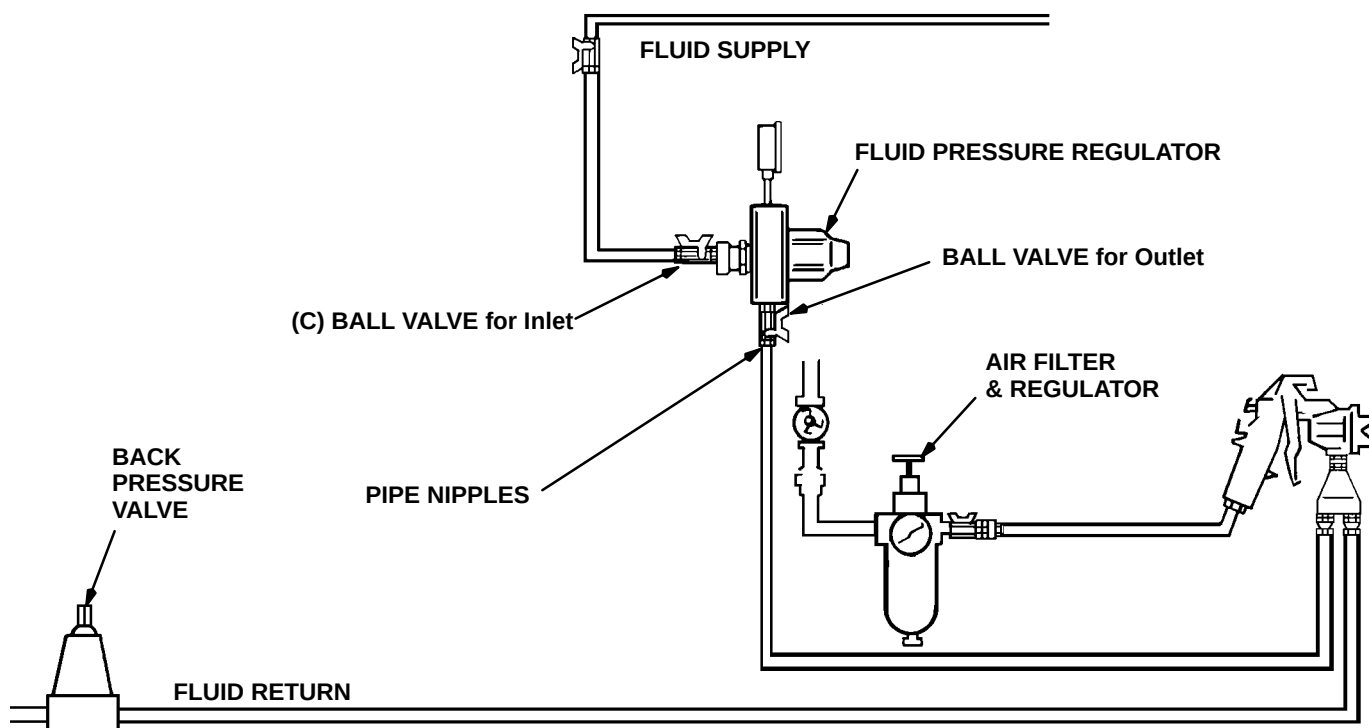
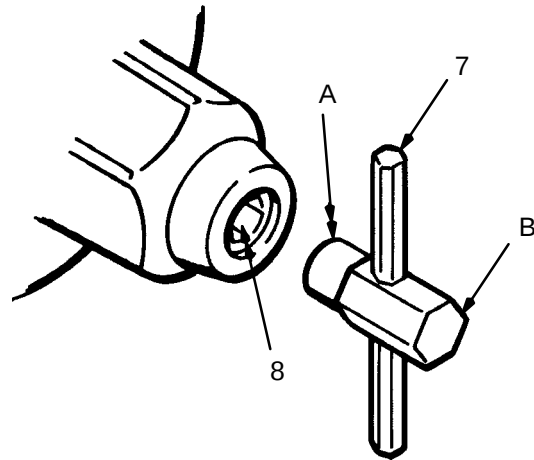

Fig 1
Fig 2
2. Shut off the pump and relieve fluid pressure in the system by opening the back pressure valve or other bypass valve. See Fig 1.
3. Using the external hex (B) of the adjusting key (7), turn the adjustment screw (8) *fully counterclockwise* to open the regulator valve (*bypass mode*). See Fig 2.
1. Start the pump and open the fluid shut-off valve (C) to admit paint to the regulator inlet. See Fig 1.
2. Take the regulator out of bypass mode by using the external hex (B) of the key (7) to turn the adjustment screw (8) *fully clockwise* (until it bottoms out).
3. Engage the internal hex (A) of the key (7) with the adjusting screw (8), and turn the key *clockwise* to increase fluid pressure or *counterclockwise* to decrease pressure. See Fig 2. Adjust for the desired spray pattern.
3. To close the regulator, engage the internal hex (A) portion of the key (7) with the adjusting screw (8) and turn it *counterclockwise* all the way. See Fig 2.